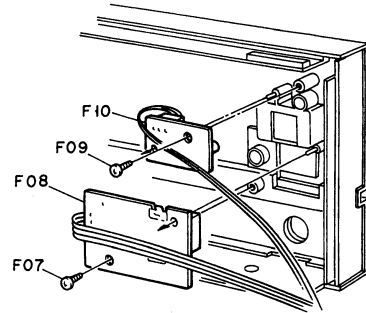

Fig. 2.2.2
- (4) Turn F06 (Front Panel Ass'y) in the direction of the arrow.
- (5) Loosen a screw F07 and remove F08 (Remote Control Sensor P.C.B. Ass'y). Refer to Fig. 2.2.2.
- (6) Loosen a screw F09 and remove F10 (Power Indicator P.C.B. Ass'y).